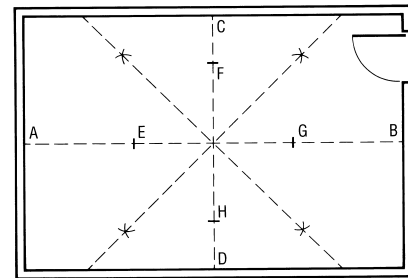

Fig. 25 - Diagonal layout.
- Use a slightly larger arbitrary size and swing an arc on both sides of each line from points E, F, G, H (Fig. 25). Snap diagonal chalk lines at the point where the marks intersect. If done correctly, the chalk lines will intersect at the center point.